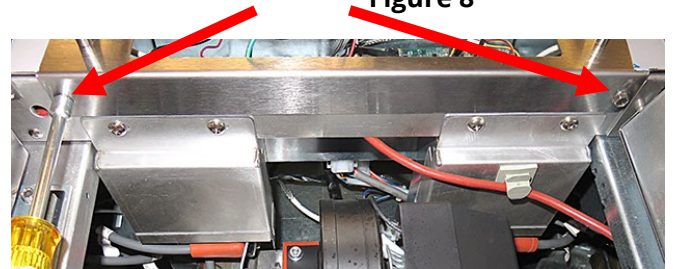
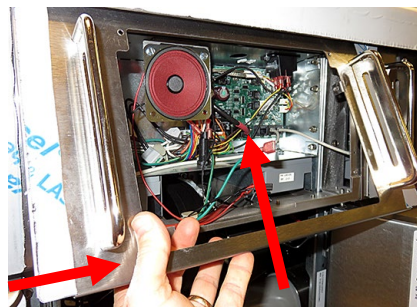

Figure 10
Figure 11
13. Remove the bezel by removing the two 5/16" screws on the bottom of the bezel (see Figure 10) and tilting the bezel up from the bottom and lowering towards the front of the fryer (see Figure 11).